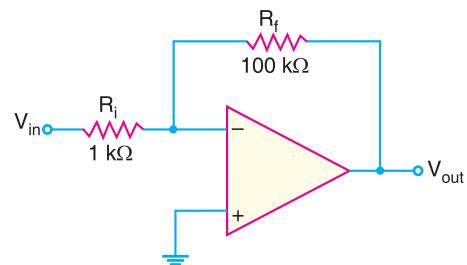

Fig. 25.69
**Example 25.43.** Find the values of the input and output impedances in Fig. 25.69. Also determine the closed-loop voltage gain. The OP-amp has the following parameters:  $Z_{in} = 4 M\Omega$ ;  $Z_{out} = 50 \Omega$  and open-loop voltage gain = 50,000.